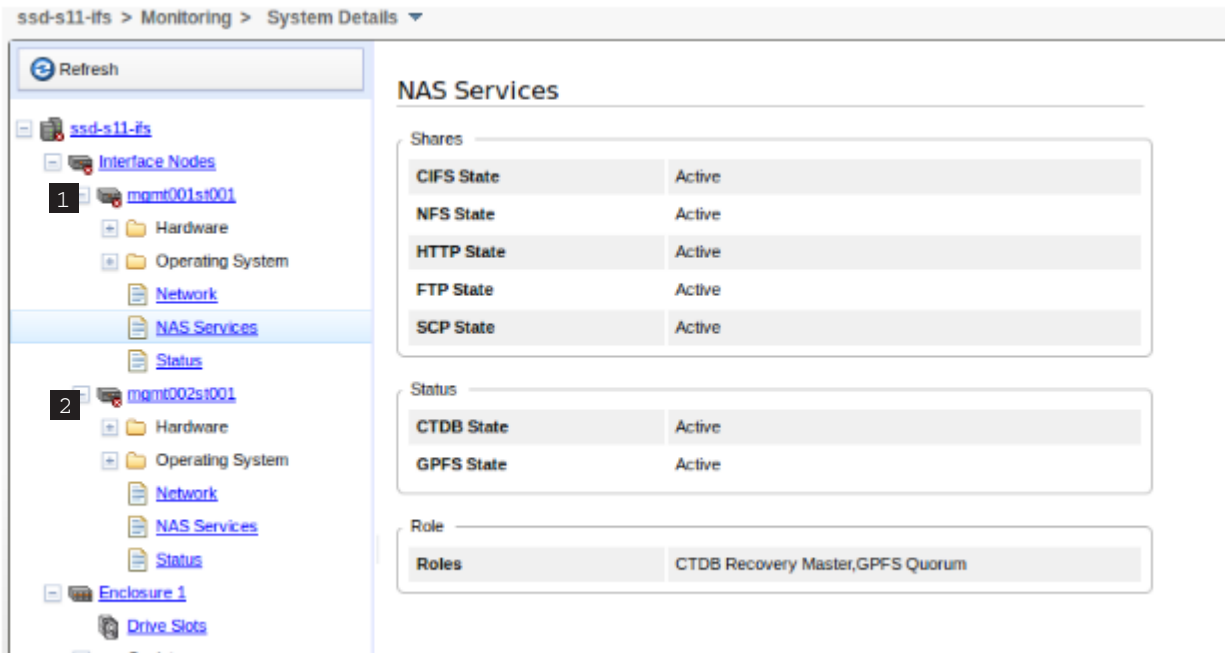

Figure 46. Management GUI showing CTDB status for both file modules
- Review the status of both file modules, **1** mgmt001st001 and **2** mgmt002st001, as shown in Figure 46 on page 161.